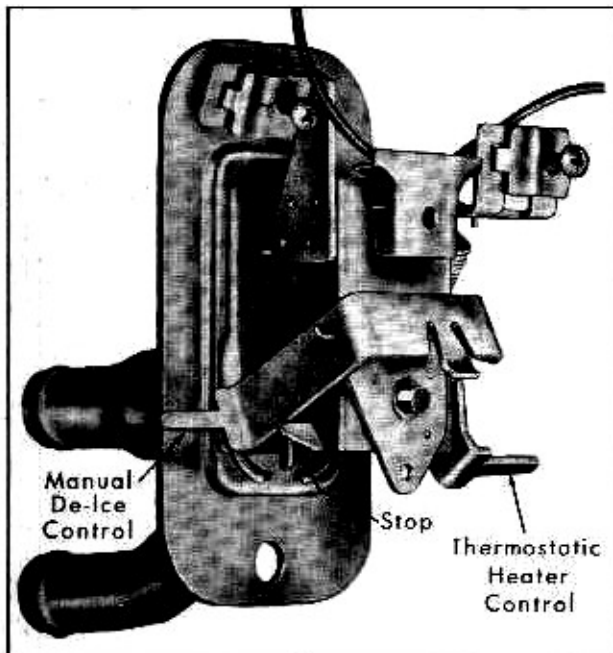

Fig. 16-B-3 Thermostatic Control Valve
7. Move "Defr." control lever to "ICE" position at full extent of travel. Adjust manual control on thermostatic valve against stop, Fig. 16-B-3, and tighten clamp.